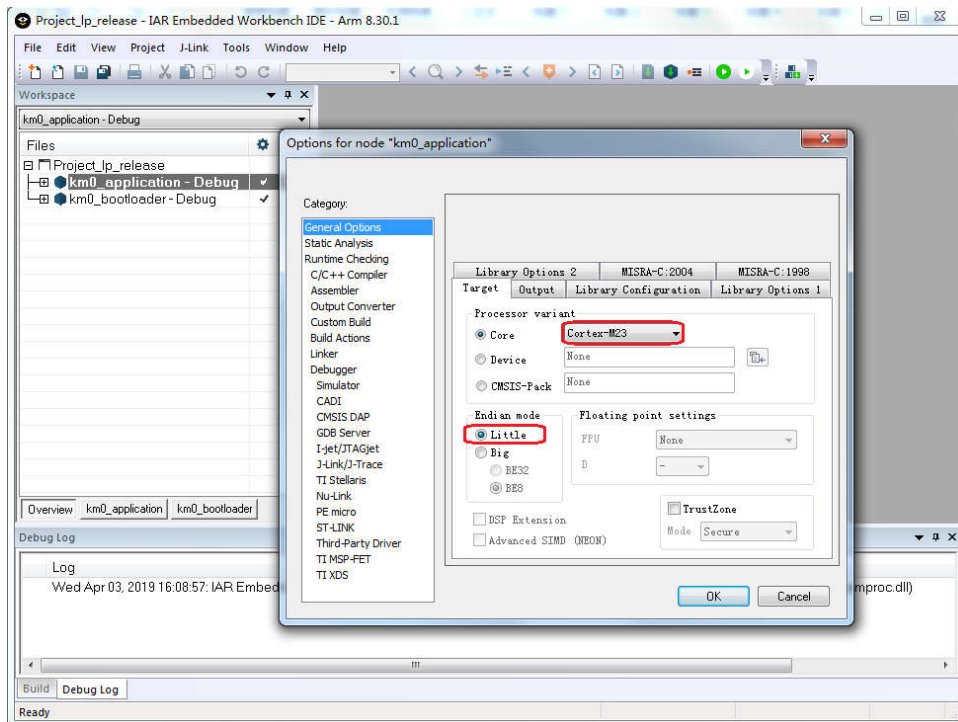

Fig 1-7 KM0 processor options
- (1) Open **project\realtek_amebaD_va0_example\EWARM-RELEASE\Project_lp_release.eww**.
- (2) Make sure km0_bootloader and km0_application are in Workspace. Click **Project > Options, General Options > Target > Processor Variant > Core**, verify the CPU configurations according to Fig 1-7.